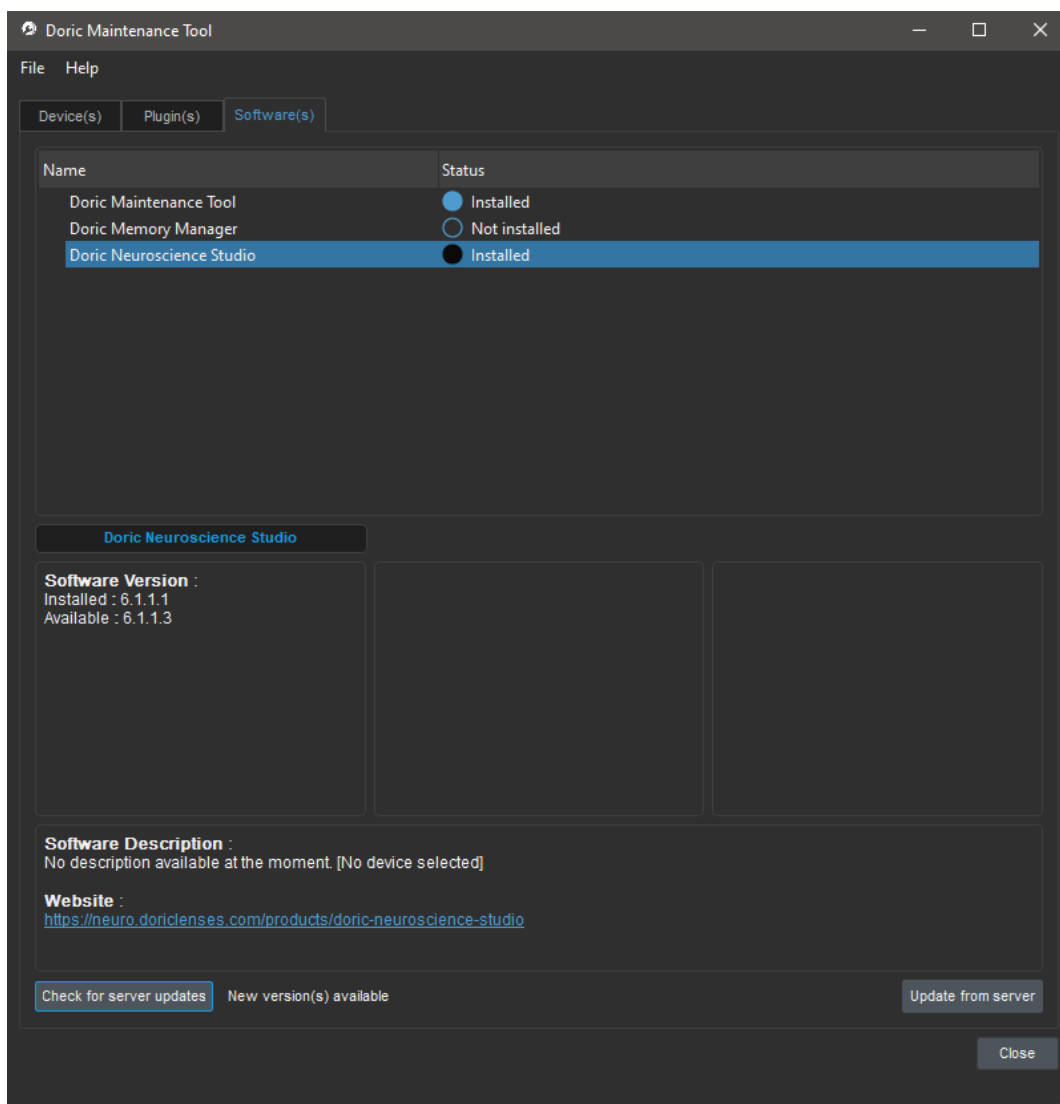

Figure 2.11: Doric Maintenance Tool - Overview
7. The installer will immediately detect the previous version and present the option of uninstalling it (Fig. 2.11). **Click Yes**.